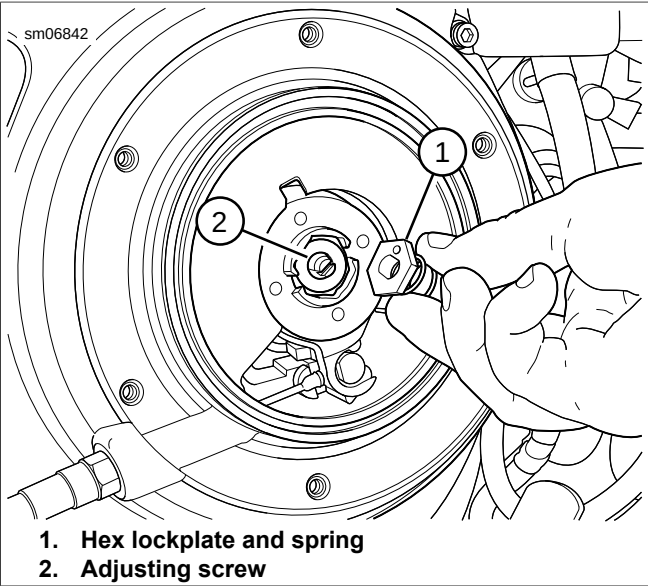

Figure 1-26. Clutch Adjustment Screw
3. See Figure 1-26. Remove the hex lockplate with the spring (1) from the clutch adjusting screw (2).